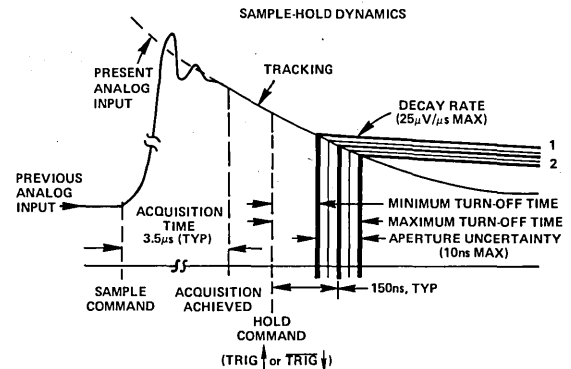
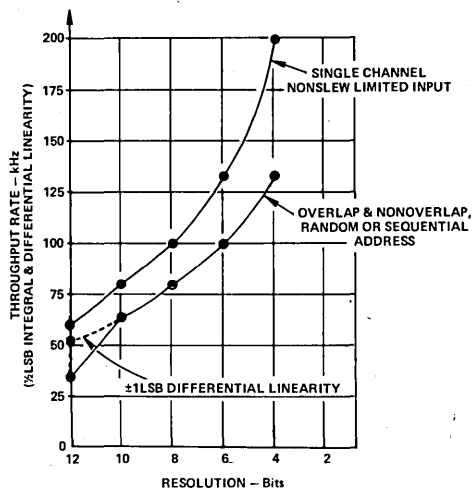

Figure 4. Sample-Hold Parameters Defined and Specified
Figure 5. DAS1128 Throughput Rates
The overlap mode is defined as the ability of MUX to accept a new channel address thereby selecting the next channel to be sampled while the previously acquired sample is being held by the S/H for conversion. The dynamic characteristics of the S/H circuit are shown in Figure 4. Maximum throughput rates are obtainable when a single channel is held at a single address and the channel is sampled repeatedly. In a dynamic condition, data-throughput rates obtainable are shown in Figure 5.
It is possible to short cycle the DAS1128, i.e. stop the conversion after less than 12 bits. This can be done by connecting an external jumper between short cycle terminal and one of the output terminals. With shorter cycles the attainable throughput rate increases, see Figure 5. In short cycle operation the EOC will decrease proportionately to the number of bits selected. Note the short cycle terminal *must* be grounded for full 12-bit operation.
3. Select A-D conversion/channel select sequence (see Figure 5).